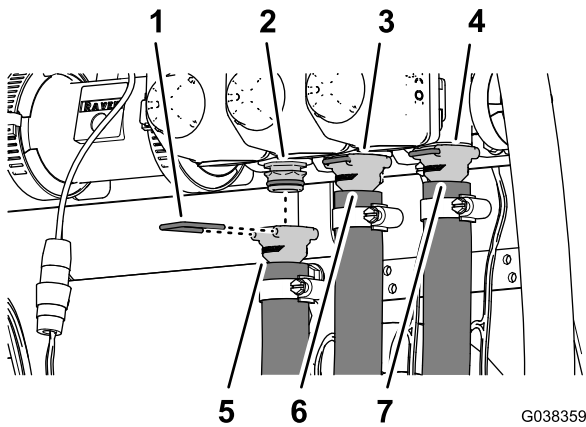

Figure 80
2. Assemble the straight barbed fitting of the supply hose for the left boom-supply hose onto the quick-connect fitting at the left-boom-section valve (Figure 80).
3. Secure the straight barbed fitting to the quick-connect fitting with the retainer that is supplied with the hose (Figure 80).